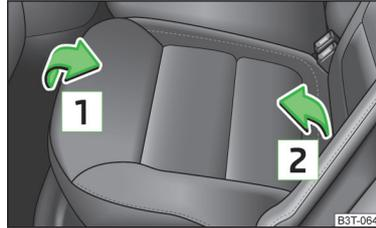

Fig. 78
- Pull up the seat squab in the direction of the arrow **1** » Fig. 78 and fold forwards in the direction of the arrow **2**.